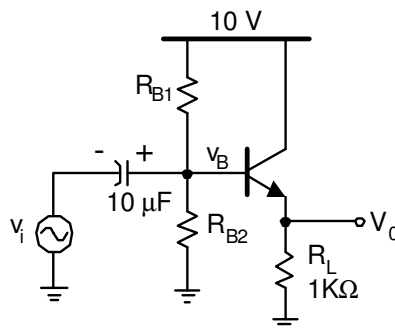

Fig. 4. Common-collector configuration
9. Find the magnitude of the small signal voltage gain for the circuit shown in Fig. 4 for a DC collector current is 1mA. Select the resistors lumped to the base such that the collector current is 1mA and $R_{B1} || R_{B2} > 50$ k Ω . Check first the operating point of your design, and verify that the voltage gain is approximately given by $g_m (R_L || 1/g_m)$. Compute the values for the input impedance seen at the base and output impedance.
10. Construct the circuit in Fig. 4 in Pspice and compare the simulated results (input impedance, output impedance and voltage gain) with hand calculations. Explain the differences if any. Also, obtain the frequency response of Fig. 4, and find the low frequency and high frequency poles.
8. Construct the circuit shown in Fig. 4; use the resistor values computed in the prelab and be sure you verify these values using Spice simulations.